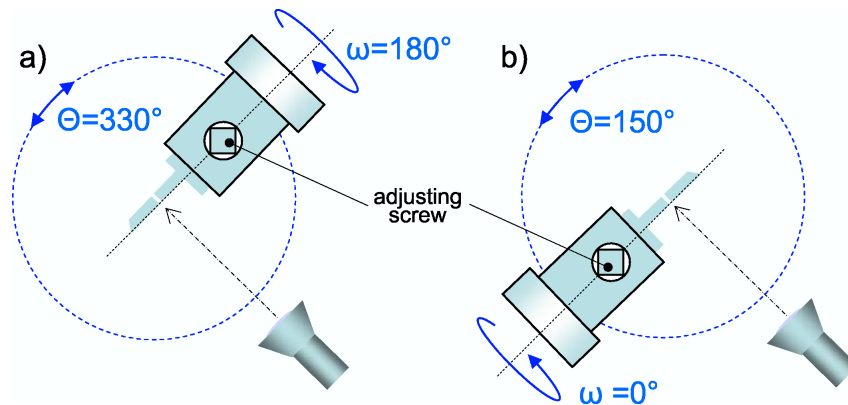

Figure 9.1: Two positions of the centering pin for the aligning with the telescope. Top view.
2. Mount pinhole on the vertical sample stage. Attention has to be paid to the right orientation of the pinhole plate – due to the thickness of the plate there is only one surface that gives the correct center (see Fig.9.1).